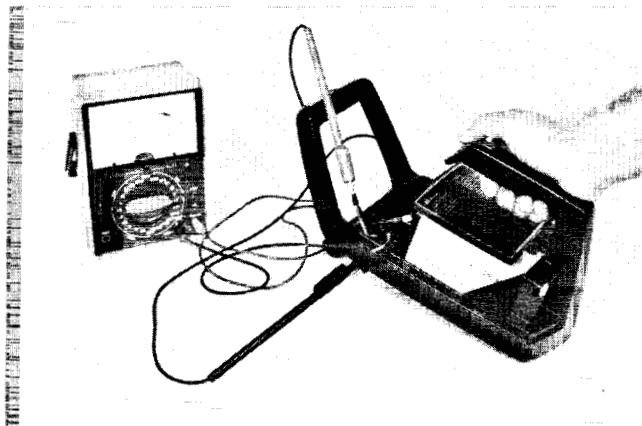

Figure 6.2a
6.2 TEST UPPER HARNESS (figs. 6.2a, 6.2b)